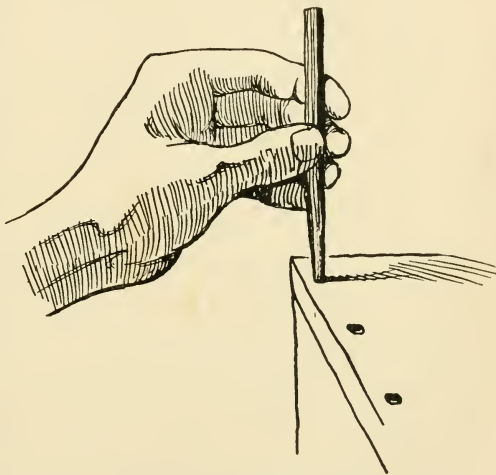

FIG. 33. — Setting Nails.
**The Nail-set**, holding the tool as shown in Fig. 33. The holes made by the heads should be filled up with putty before the finish is put upon the wood.